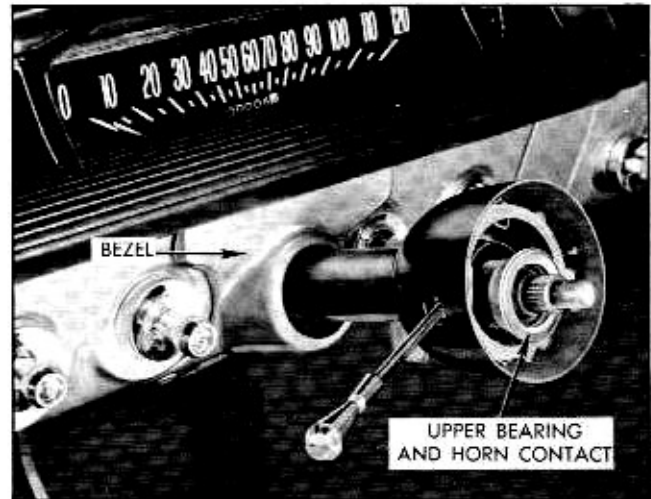

Fig. 9-12 Upper Steering Column Assembly
5. Remove upper steering column jacket bezel screws (Fig. 9-12) and upper steering column jacket clamp, located just under front edge of instrument panel.
4. Install upper bearing and horn contact (Fig. 9-12).
NOTE: Install steering column upper bearing prior to installing seal and collar (Fig. 9-12).